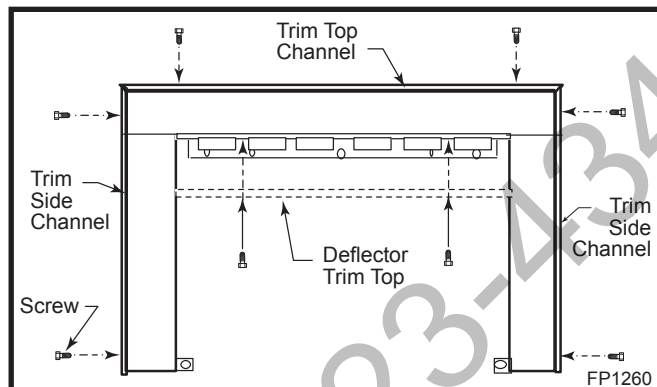

Fig. 40 Install trim channels and trim top deflector.
RHESS, RHESL and RHESXL (Fig. 40)
1. Install trim channels (left and right sides). Use two (2) screws to assemble each piece.
3. Install the trim top deflector and use two (2) screws to fasten it. (Fig. 40 & 41)